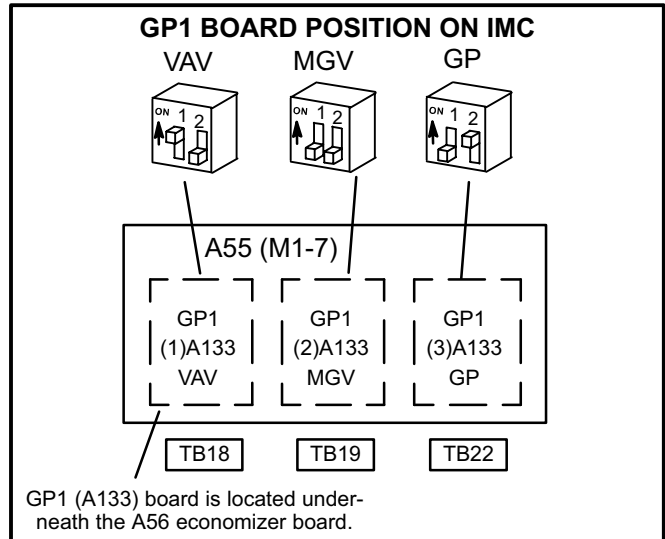

FIGURE 12
The mode is determined by the DIP switch setting and the position of the GP1 on the IMC. Each mode uses a different terminal block for field wired inputs and outputs. See figure 12.
This manual refers to the boards by function: VAV, MG, and GP. Wiring diagrams refer to the boards numerically: (1) A133 for VAV, (2) A133 for MG, and (3) A133 for GP as shown in figure 12. TB18, 19, and 22 are also specific to A133 function as shown in figure 12.